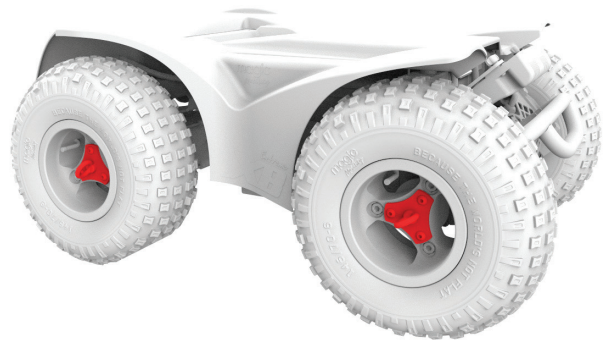

Figure 5.2d Extreme X8 lifting points (sold separately)
**Extreme X8, XT2 and XT4:** The tie down rings CAN'T be used to lift the powerchair as damage may occur to your powered seating. A lifting ring kit is available separately as shown in Figure 5.2d-f.